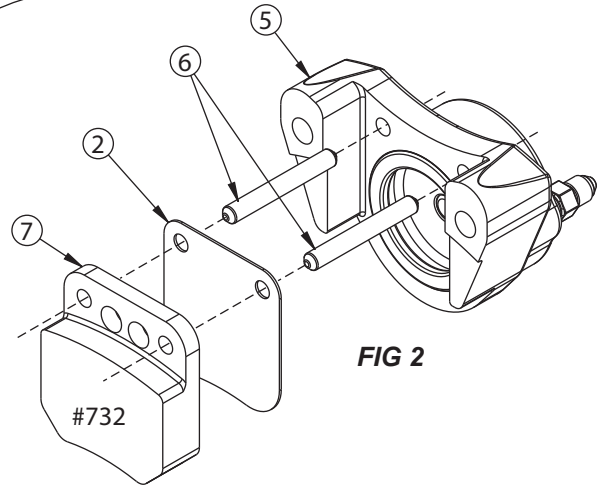

FIG 2
**Step 2** - Install the brake pad pins (6) into the inner caliper (5) by sliding them through the holes located in the caliper as shown in Fig 2. Next, slide the insulator plate (2) and inner brake pad (7) onto the brake pad pins (5) as shown in Fig 2.